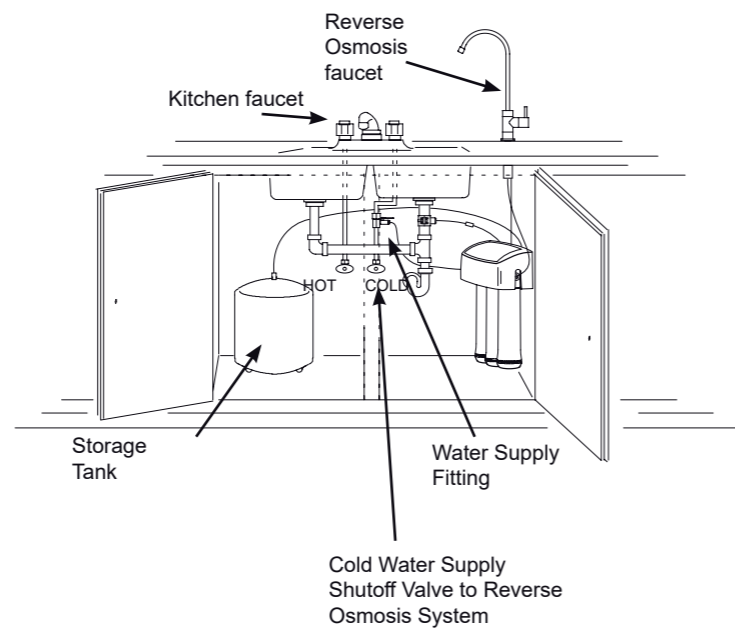

FIG. 22
2. Make sure the valve on the water supply fitting (See Fig. 22) is in the open position.